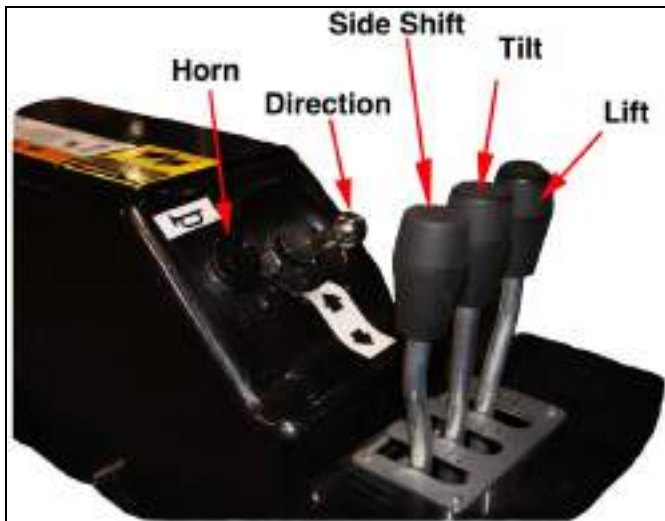

Figure 4-4: Operator Controls
3. Set the direction lever to neutral. See Figure 4-4.
The direction lever is located near the front of the armrest. See Figure 4-4.
The first lever (closest to the operator) near the front of the armrest is the lift lever. See Figure 4-4.
The second lever on the front of the armrest is the tilt lever. See Figure 4-4. Visual indicators on both sides of the mast are provided so you can easily determine the number of degrees the mast is tilted.
The third lever, away from the operator, near the front of the armrest, is the side shift lever. See Figure 4-4.
The horn is located on the armrest. See Figure 4-4. Depress the button to sound the horn.